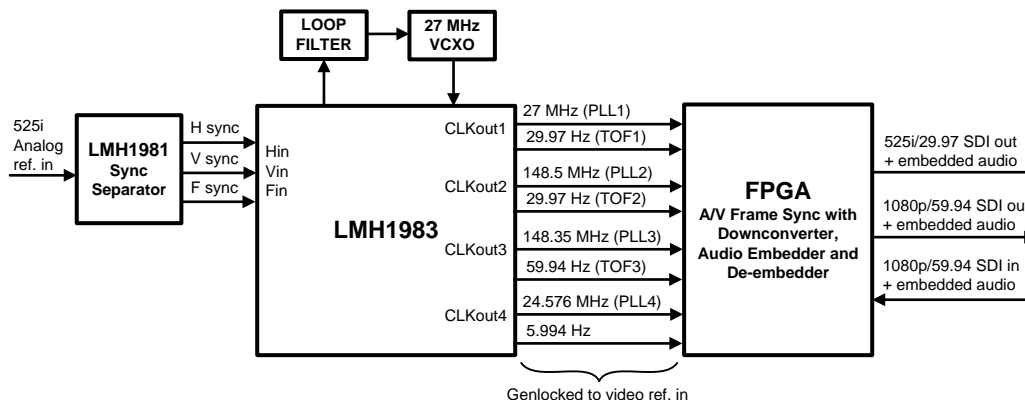
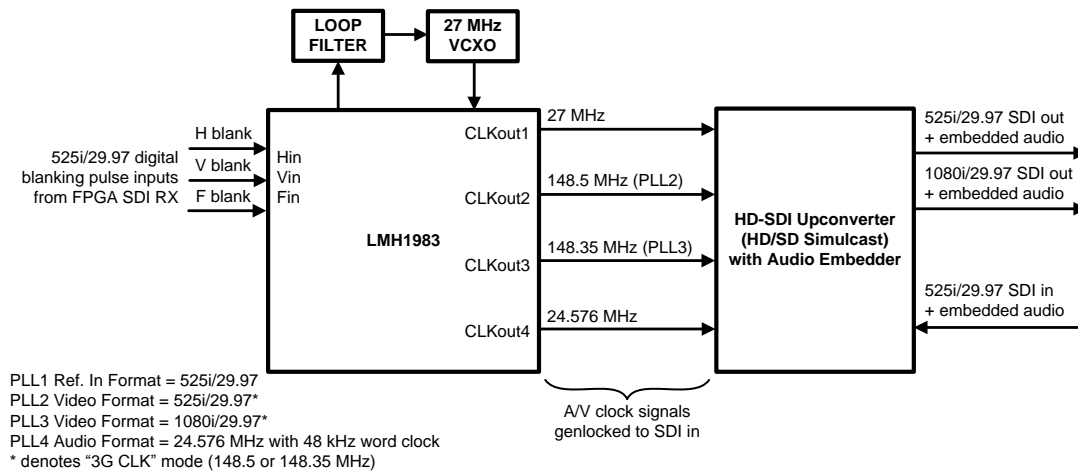

Figure 22. LMH1983 Video Genlock Timing Generation for A/V Frame Synchronizer
Figure 23. LMH1983 Video Timing Generation for HD-SDI Up-Conversion with Audio Embed/De-embed
The LMH1983 is commonly used with Hsync, Vsync, and Fsync timing signals as a reference for genlock. Once these signals are provided, the LMH1983 can produce a specific set of clock output signals required by a downstream endpoint. In some video applications, a multi-format video sync separator is used to derive the Hsync, Vsync, and Fsync signals from a standard analog SD/ED/HD video signal. In Figure 22, a LMH1981 multi-format sync separator is used to provide HIN, VIN, and FIN for the LMH1983. In this case, LMH1983 PLLs 1-4 provide a 27 MHz/29.97 Hz, 148.5 MHz/29.97 Hz, 148.35 MHz/59.94 Hz, and 24.576 MHz/5.994 Hz output, respectively, to an A/V Frame Synchronizer. Another example of this application can be seen in Figure 23, where HIN, VIN, and FIN signals are provided directly from an FPGA SDI RX without a sync separator. In the latter example, the NTSC 525i/29.97 HIN, VIN, and FIN parameters are provided individually for the LMH1983, after which the LMH1983 provides 3G, 3G/1.001, and Audio Clock Generation.
Once PLL1 has genlocked to the chosen NTSC, 525i input reference signal, PLLs 2-3 can be set according to the desired output signals specified in Figure 23. Refer to Table 6 and Table 7 for a list of possible input and output formats available for auto-format detection in Figure 22 and Figure 23, respectively. The format code can be applied as an expected input format for PLL1 (Register 0x20) or a programmed output format for PLL2 (Register 0x07) and PLL3 (Register 0x08).
Table 6. Relevant Auto-Format Detection Codes for Figure 22
**Table 7. Relevant Auto-Format Detection Codes for Figure 23**
To ensure correct auto-detection and CLKout signaling desired in Figure 22 and Figure 23, the following SMBus register values should be verified or changed from their default values.
**Table 8. SMBus Register Settings for Figure 22**
**Table 9. SMBus Register Settings for Figure 23**